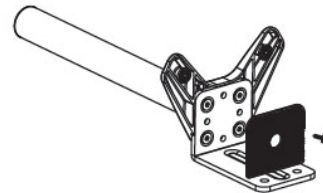
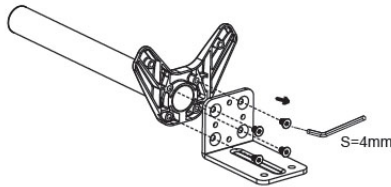

Figure 5
Figure 6
3. Remove the plastic cushion, see Figure 5, then remove the upper desk clamp from the aluminum base by removing the screws using a 4mm Allen Key, see Figure 6.